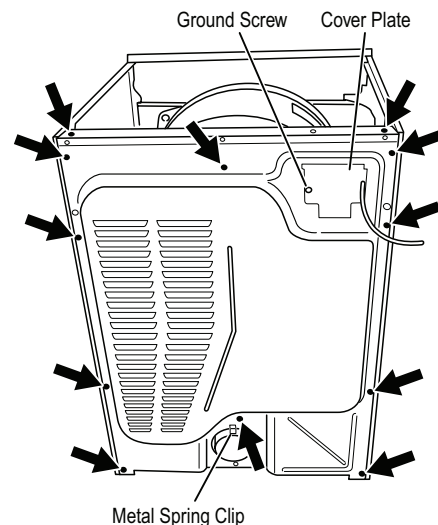

Figure 20. Remove 12 screws.
4. Remove the metal spring clip between the back panel and the exhaust outlet. See Figure 20.
5. Remove the ten screws on the rear, and two screws on the top of the back panel. Pull the back panel off the machine. See Figure 20.